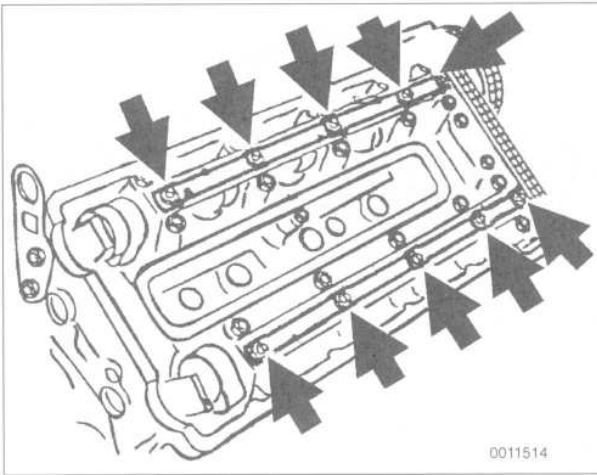

Fig. 32. Camshaft oil pipe mounting nuts (arrows). Remove pipes from both cylinder heads.
- Remove camshaft oil pipes from top of left and right cylinder heads. See Fig. 32.